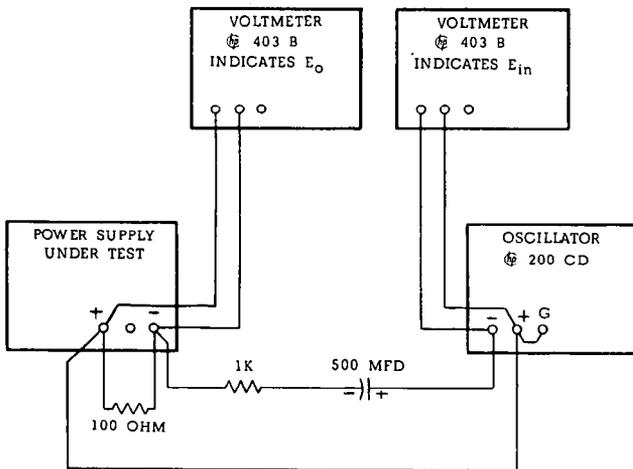

Figure 5-9. Output Impedance, Test Setup
- a. Connect test setup shown in Figure 5-9.